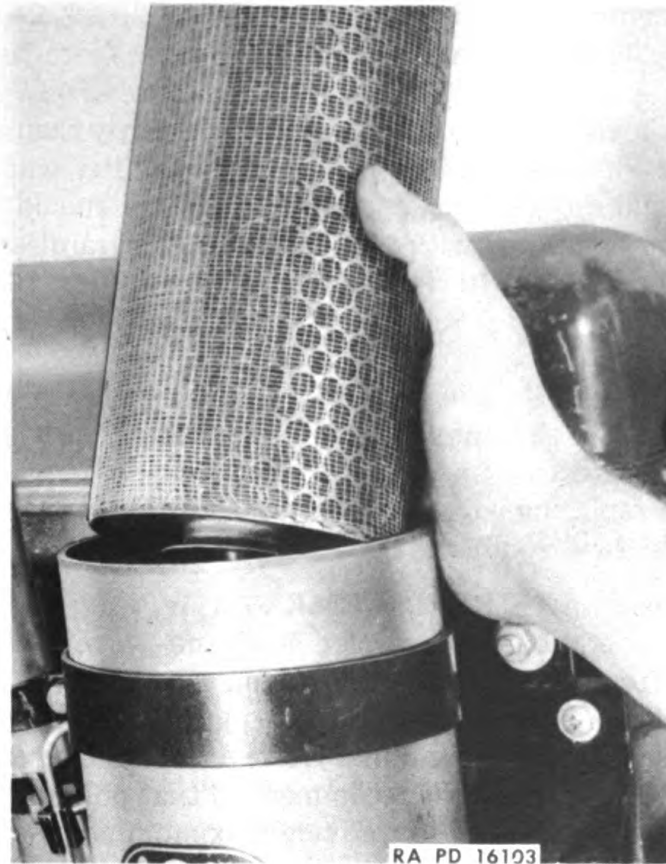

Figure 134—Replacing Oil Filter Element
c. Oil Filter Element Replacement Procedure (Figs. 134 and 135)
- (1) Unscrew nut which retains cover and remove cover, gasket and spring.
- (2) Drain oil filter housing to remove solid matter and water which may have settled in the sump located in the bottom of housing.
- (3) Replace element if necessary.
- (4) Before replacing cover and gasket, carefully inspect gasket and see that it is in good condition.